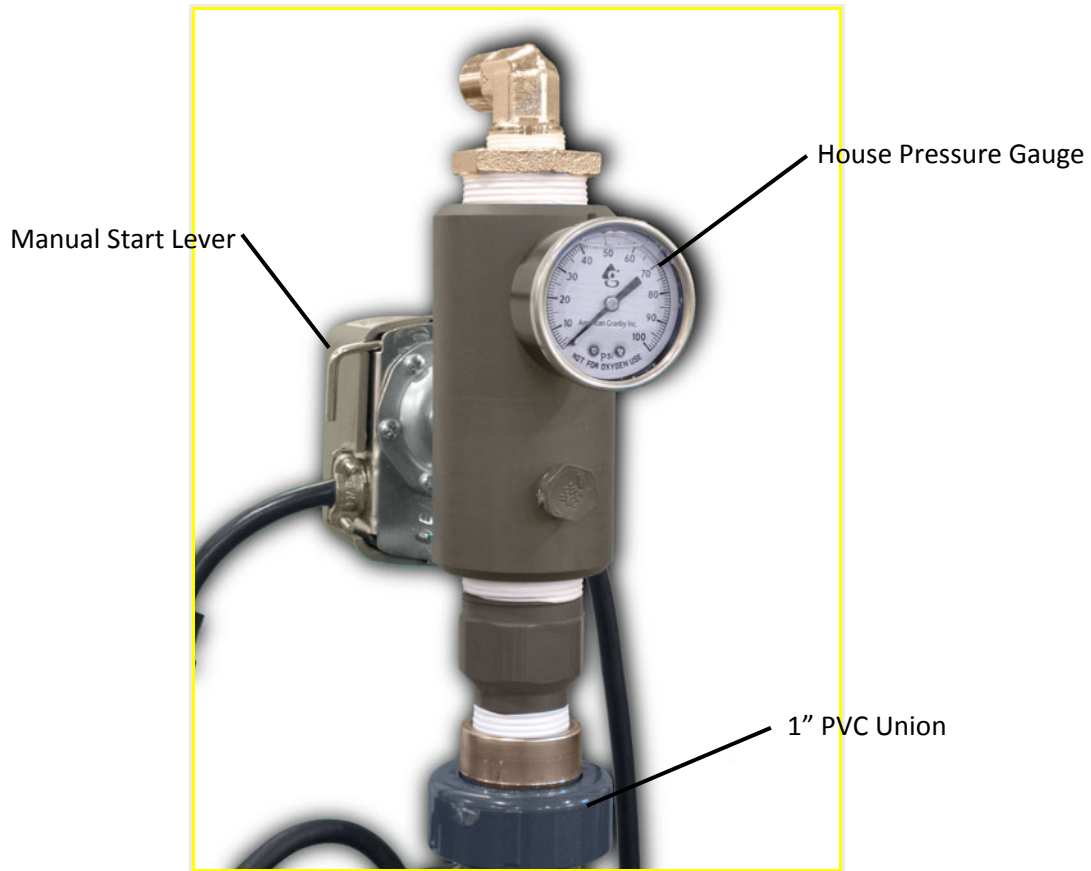

Figure 9 – Bubble-Up Mechanical Pump Control – BUB075
5. Once the tank is full, plug in the black pump control cord. The pump control will require a manual start. Move pressure switch lever to the start position until the pumps starts. See figure 9 or Bubble-Up Mechanical Pump Control Owner's Manual included with the Windsor.